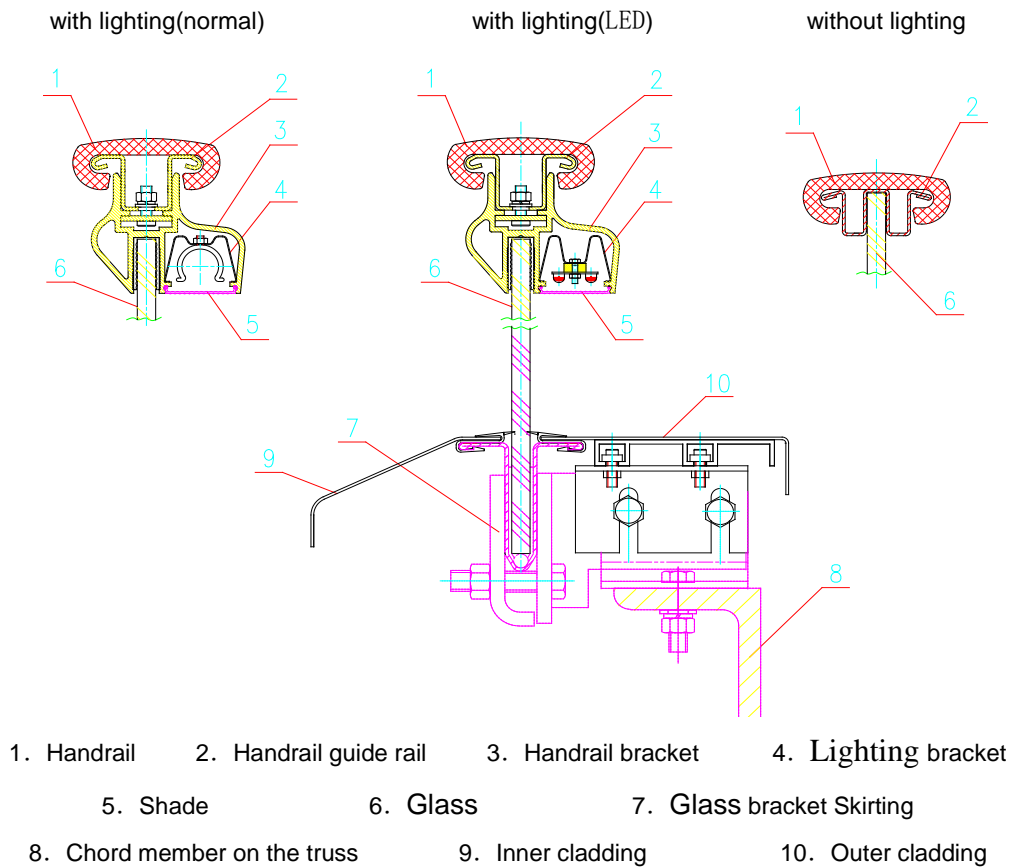

Figure 27 Handrail device
10.6 Handrail device, refer to Figure 27